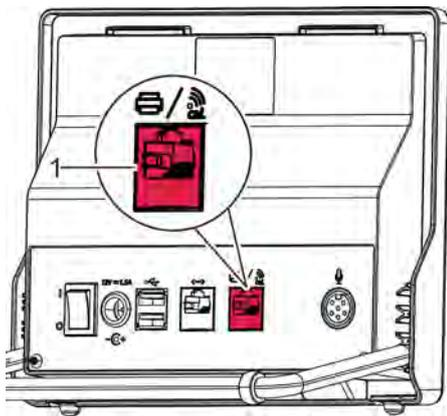

Fig. 12: Printer port
2. ➤ Insert the printer cable into the printer port (Fig. 12/1).